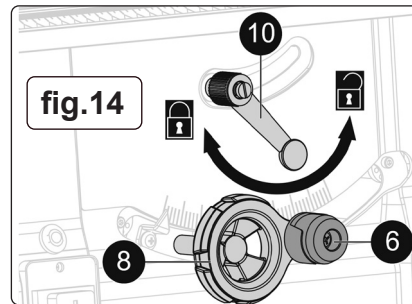

fig.14
- 6.2.2. To adjust the blade angle, wind the blade up fully as in 6.2.1. and loosen the bevel lock (fig.14.10) and adjust the angle by turning the bevel adjustment (fig.14.8). The angle set can be read from the bevel scale (fig.14).